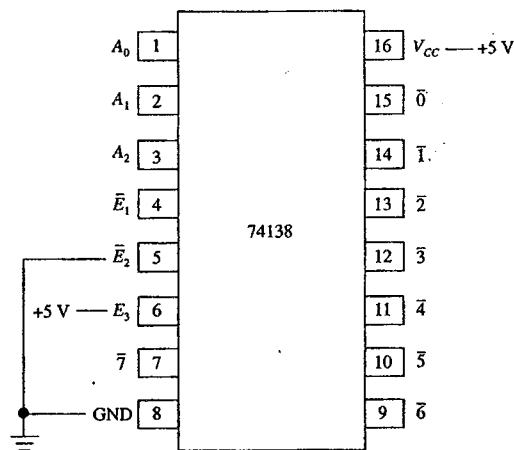
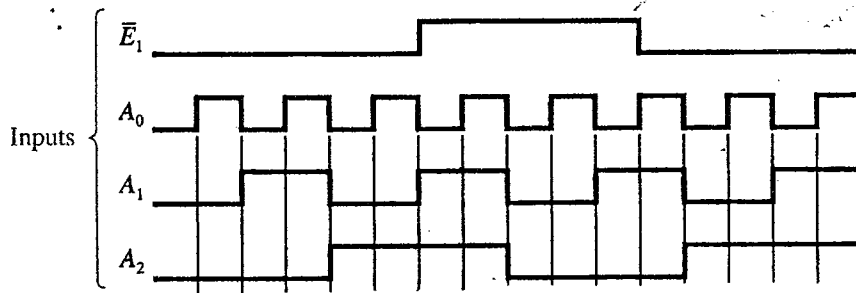

Figure 3a
Figure 3b
- (e) Sketch the output waveform of the 74138 in Figure 3a. The input waveforms to the 74138 are given in Figure 3b.